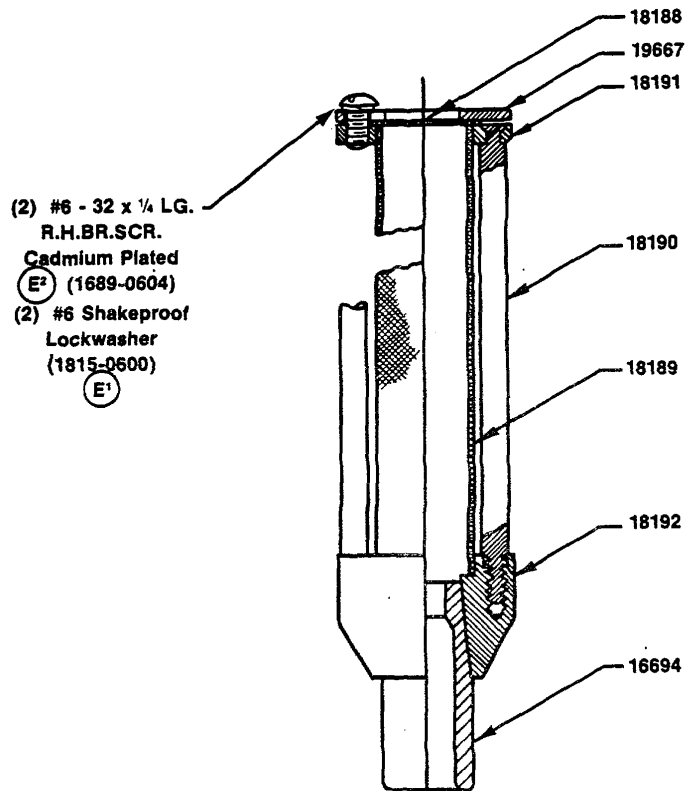

Figure 9-1. Spark Screen Assembly
- 9.4 To perform smoke tests of the KMSD installation, it is recommended that a smoke test source be fabricated similar to that illustrated in Figures 9-1 through 9-11.